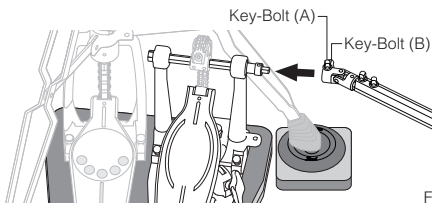

Fig.10
Next, connect the Drive Shaft to the pedal and tighten Key-Bolt (A) first, then Key-Bolt (B) (Fig.10). If needed, make the necessary adjustments to the length of the Drive Shaft to perform this step. Tighten and secure all Wing-Bolts and Key-Bolts before use.